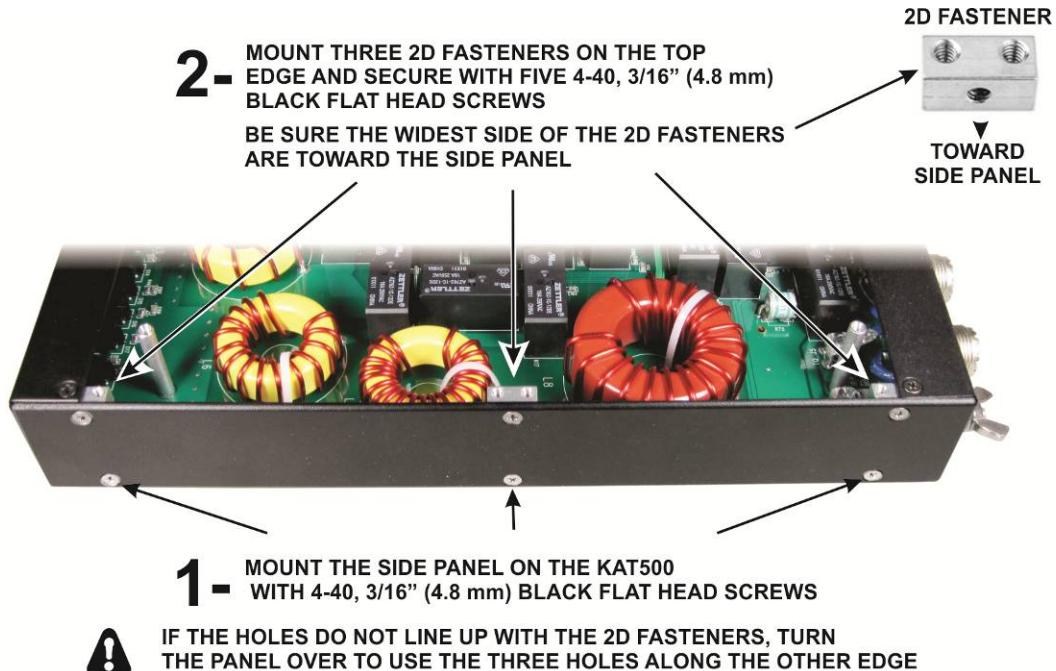

Figure 37. Installing the Side Panels.
Place a side panel on the KAT500, lining up the three holes along the bottom with the 2D fasteners between the pc board and the bottom cover. Be sure all three holes line up. If they do not line up, turn the side panel over to line up the other three holes. Attach the side panel with three screws as shown in Figure 37 at (1).
Mount three 2D fasteners along the top edge of the side pane as shown in Figure 37 at (2). Be sure the widest side is toward the side panel as shown. You may need to loosen the screws along the bottom edge to allow the panel to move to properly align the holes.